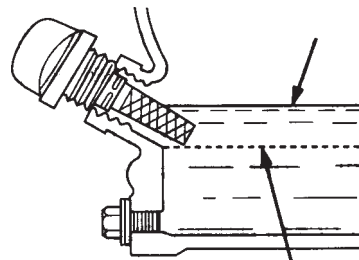

Figure 6. Engine Oil Dipstick (Oil Level)
4. If the oil level is low (Figure 6), fill to the edge of the oil filler hole with the recommended oil type (Table 4). Maximum oil capacity is .63 quarts (0.6 liters)